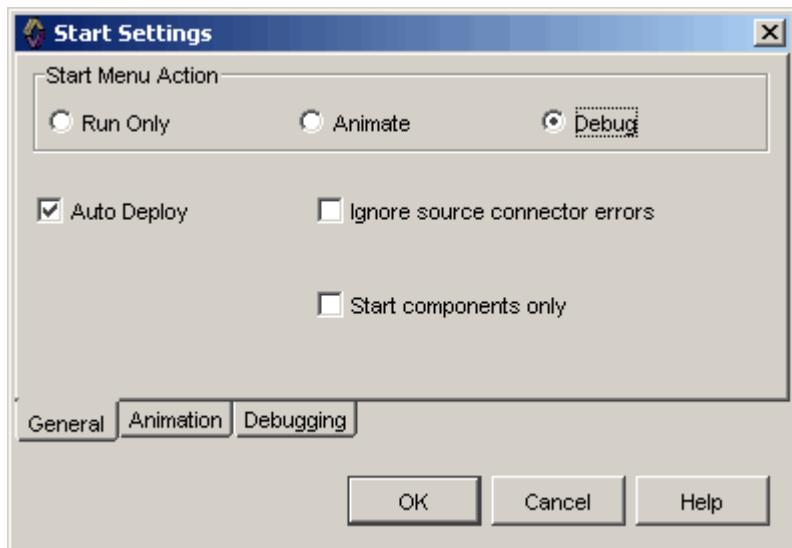

Figure 27-1 Start Settings Dialog Box
2. In the **Start Settings** screen (Figure 27-1), click the **General** tab. (This tab is selected by default when the screen opens for the first time.)